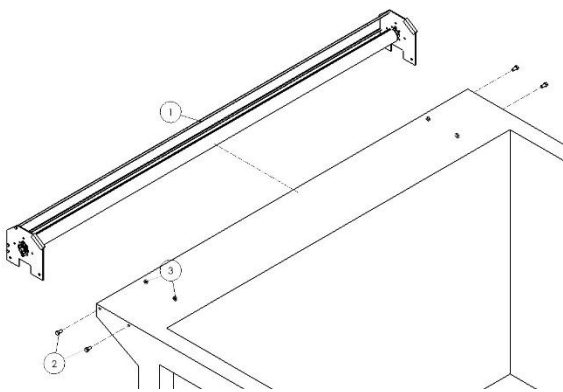

Figure 1.1
Mount the two supplied tarp spool mounting brackets (2) as far forward as possible on the exterior of the dump box. Drill the two mounting holes 1-3/4" down from the top edge of the box. Use the supplied 1/2" x 1" bolts (1) and 1/2" nuts (3) to attach the tarp spool mounting brackets. (Figure 1.1)